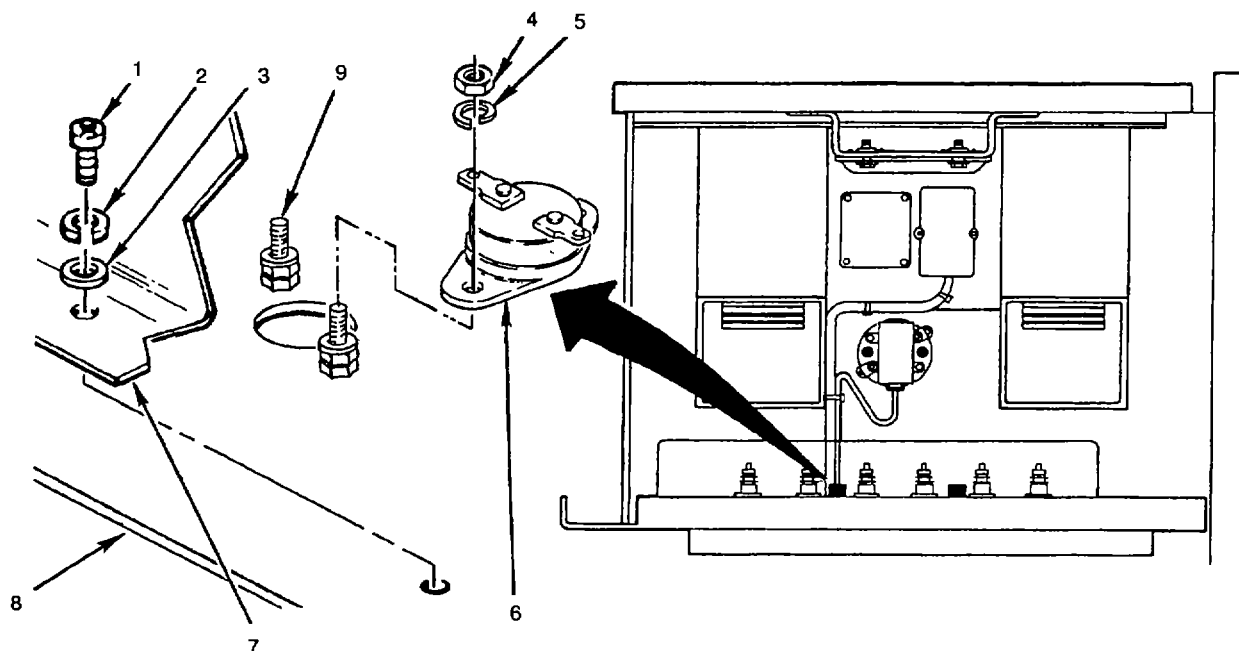

Figure 4-43. Heat Limit Switches (S9 and S10)
- (1) Disconnect air conditioner input power at source,
- (2) Remove evaporator duct/panel (paragraph 4.22);
- (3) Remove return air filter (paragraph 4.26);
- (4) Remove two screws (1), lockwashers (2), flat washer (3). and plastic cover (7) (see fig 4-43); and
- (5) Remove cover (7) from plate (8).